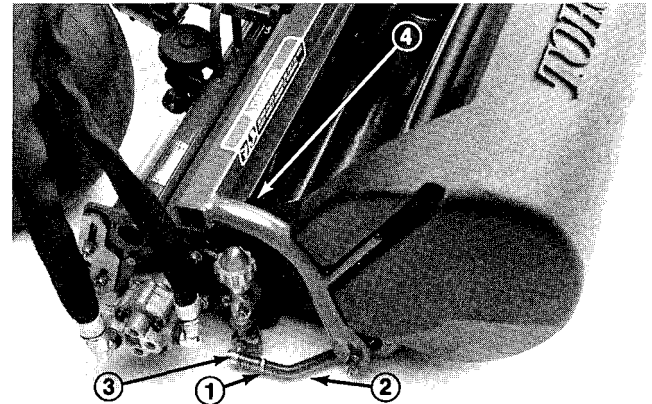
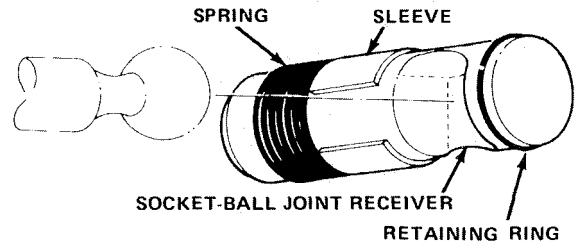

Figure 8
Figure 9
6. Mount the baskets on the pull frames, loosen the jam nuts on the pull arms and adjust the ball sockets until there is 1/4 in. to 1/2 in. clearance between the lip of the basket and the reel blades (Fig. 8).
7. Align the sockets in the ball joints so the open side of the socket is centered towards the ball stud (Fig. 9). Tighten the jam nuts to secure the sockets in position (Fig. 8).